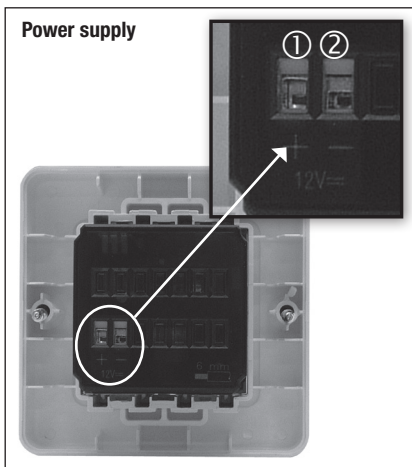

Figure 2
- Variation allowed: 10.5Vdc – 14Vdc (see figure 2)